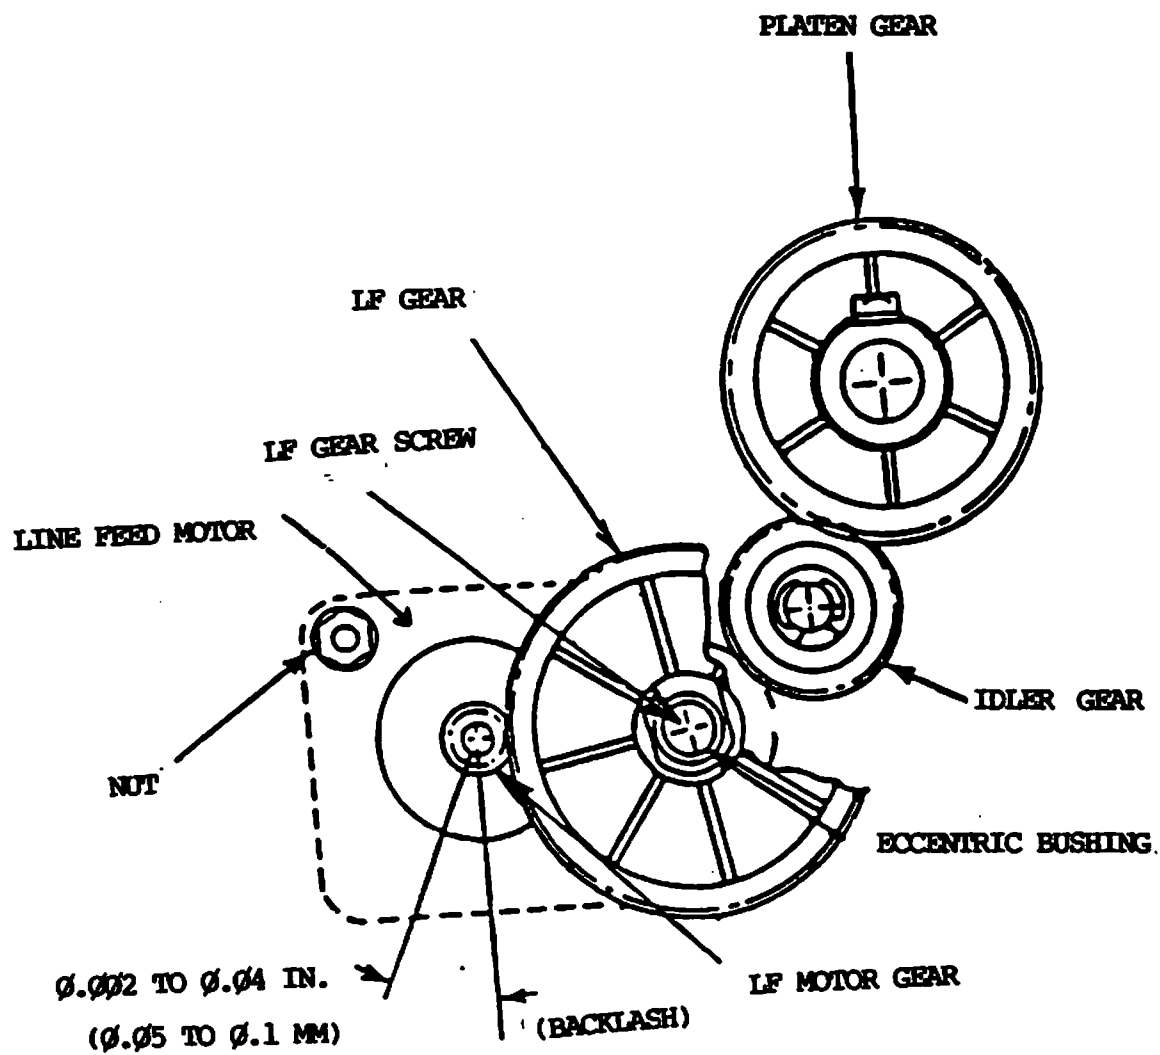

Figure 4-5 Line Feed Motor Gear Adjustment
2. Remove the screw securing the LF gear to the left printer side frame, and remove the LF gear (see Figure 4-5). Loosen the two LF motor nuts and move the LF motor to adjust the gear backlash between the LF gear and the LF motor gear. Backlash tolerance should measure between $\emptyset.002$ and $\emptyset.004$ in. ($\emptyset.05$ and $\emptyset.1$ mm).
3. Replace the LF gear. To adjust this gear, loosen the LF gear screw and adjust the eccentric bushing (see Figure 4-5). This allows for gear backlash between the idler gear and the LF gear.